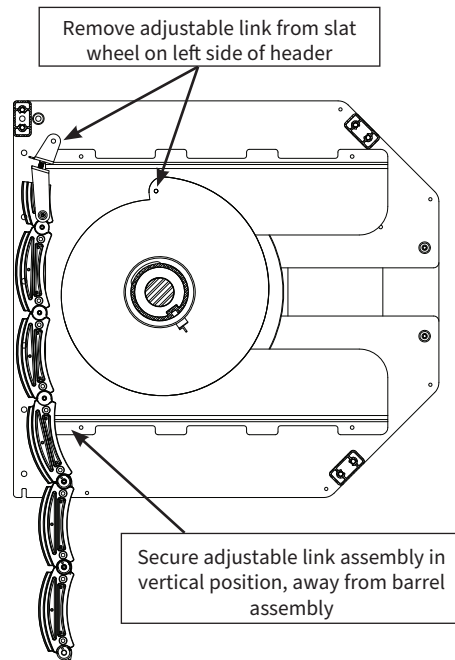

Figure 4: Unattach Adjustable Link Assembly From Slat Wheel
- 1 The adjustable link assembly, 24B0945NN (see Figure 4), attaches to the slat wheel on the left side of the header. Remove the shoulder screw & nut holding Adjustable link assembly on left side of header to the slat wheel.